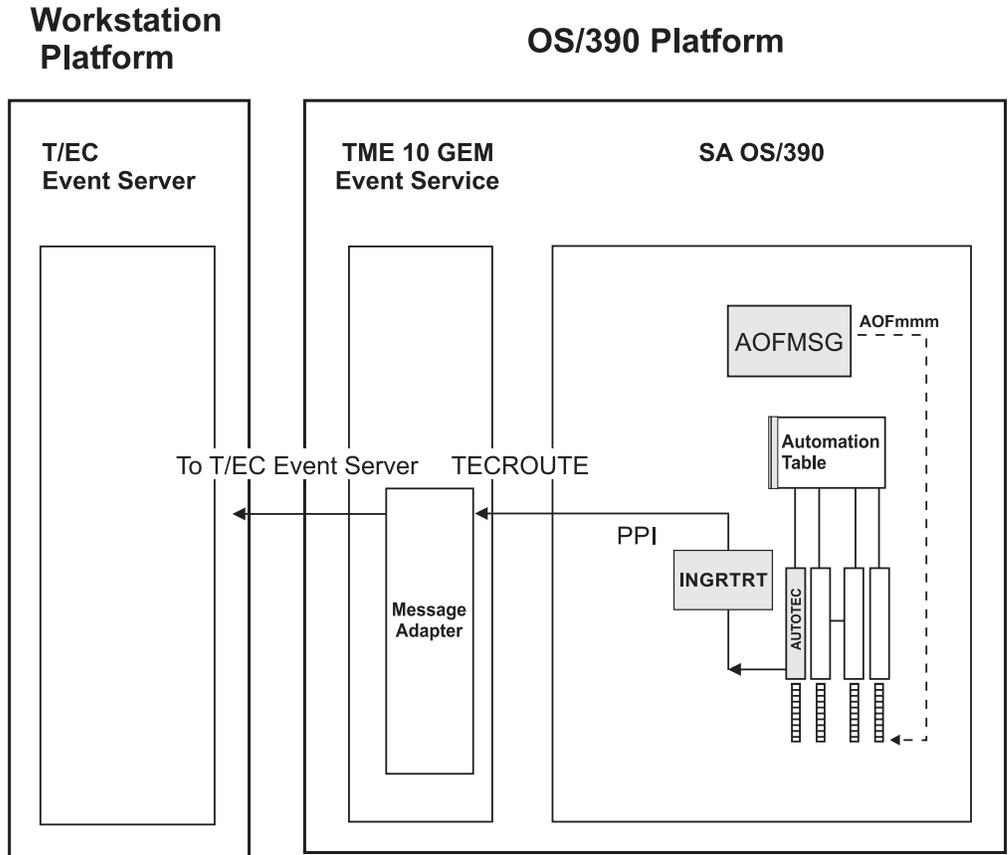

Figure 16. Local Configuration: Tivoli GEM Event/Automation Service local to the SA OS/390 Source of Messages
- **local configuration:** The message adapter or alert adapter is running on the same OS/390 system on which SA OS/390 is also running. The adapters are local to the SA OS/390 which is issuing and forwarding messages and alerts to the Tivoli Enterprise Console. Such a configuration for message forwarding is illustrated in Figure 16 on page 53.